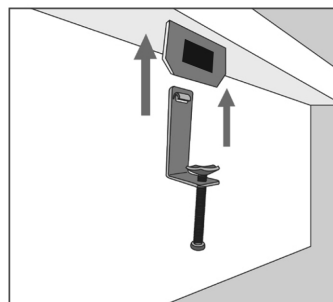

Figure 3
4. Attach mounting clips to the prongs protruding from the underside of the sink rim. Make sure the hooked side of the mounting clip is facing away from the sink (Figure 3).